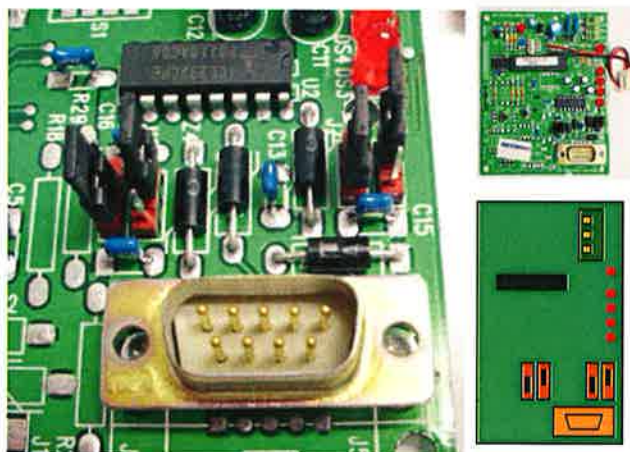

Figure 2 NX-584 Jumper Setting
2. Make sure **NX-584 Jumpers** are set according to **Figure 2**.